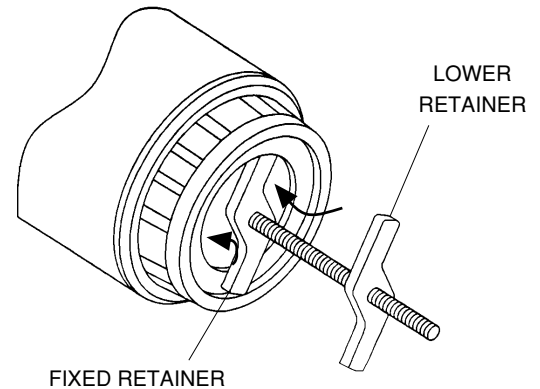

Figure 2
STEP 2: Position fixed retainer into inlet opening by angling retainer so both ends of it are inside the inlet. (See Figure 2)